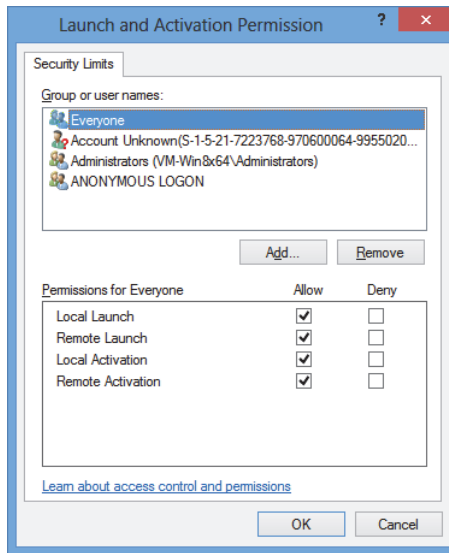

Figure 2-9 The Launch and Activation Permission dialog box
8. In the **Launch and Activation Permissions** dialog box (see Figure 2-9 on page 37), define your permissions: